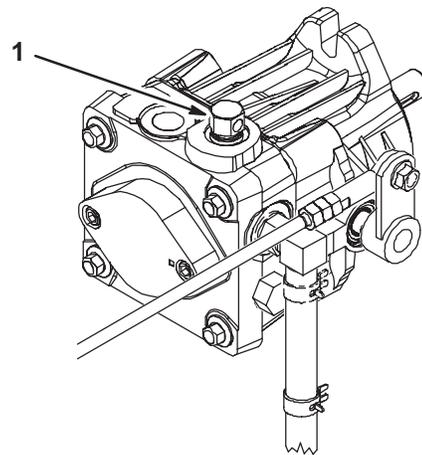

Figure 23
2. Rotate the by-pass valves counterclockwise 1 turn to push. This allows hydraulic fluid to by-pass the pump enabling the wheels to turn (Fig. 23).
1. Rotate the by-pass valves clockwise 1 turn to operate machine (Fig. 23).